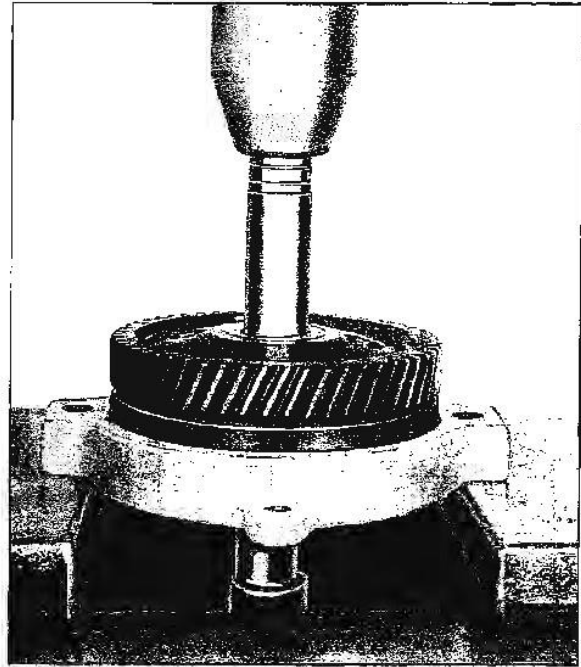

Fig. 6-42 Removing Camshaft Timing Gear
2. Place tools on table of a press. Place the camshaft through the opening in the tools. Press shaft out of gear using socket or other suitable tool (Fig. 6-42).